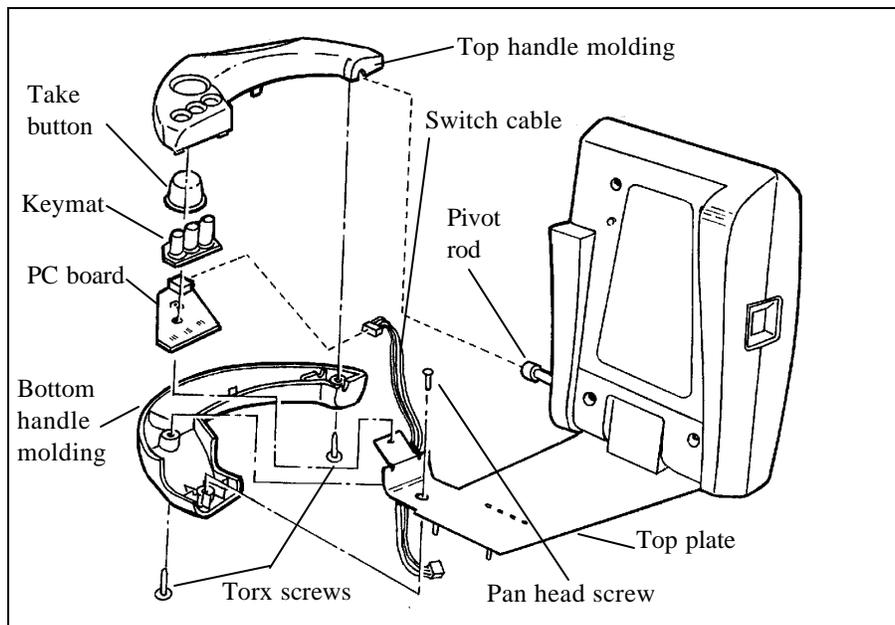

Figure 4- 13 Disassembling handle components
1. Orient the camera as shown in Figure 4- 13, with the top plate swiveled down.